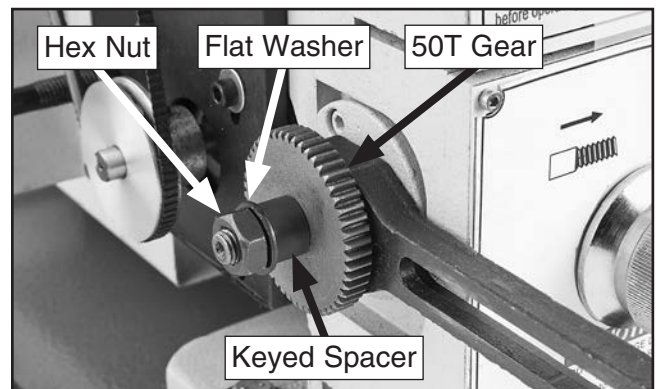

Figure 78. 50T gear installed on lower shaft.
- Slide 50T gear onto lower shaft with hub facing in, re-install keyed spacer and flat washer, then thread on hex nut finger-tight, for now (see **Figure 78**).